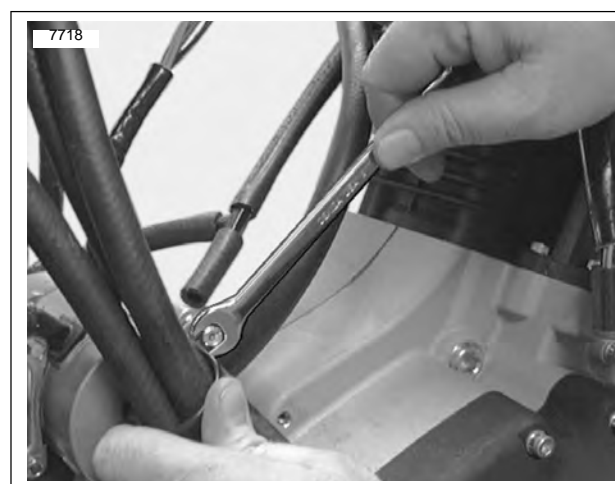

Figure 3-31. Tighten Clamp
14. See Figure 3-31. Tighten nut on hose routing clamp.